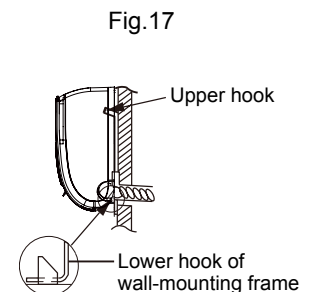

Fig.17
- (5) wall. (As show in Fig.17)